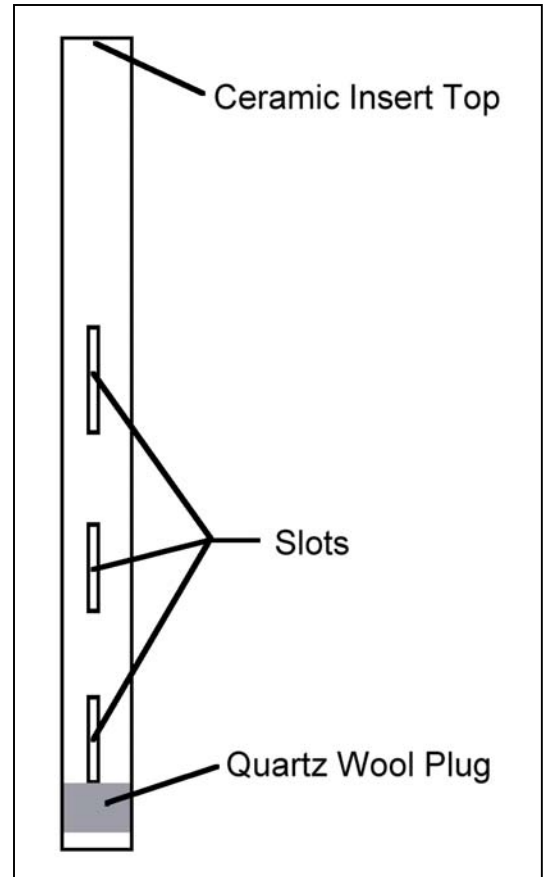

Figure 1
8. Quartz wool plug not inserted in the ceramic insert to the bottom of the first slot. The quartz wool plug assures that the sample is in the hot plateau region of the tube furnace. (See figures 1 and 2, attached.)
The ceramic insert should be prepared as shown in Figure 1. A quartz wool plug should be inserted into the bottom of the slotted, ceramic tube and positioned so that the plug just reaches the bottom of the lowest slot on the tube.